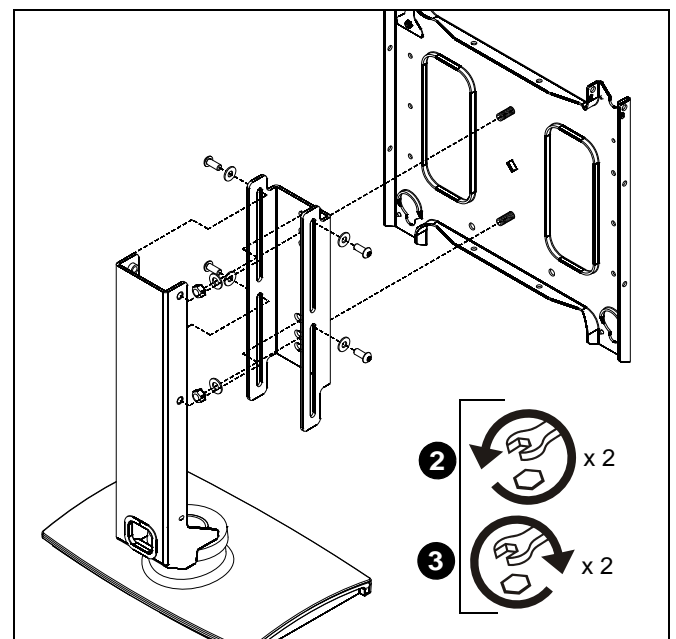

Figure 3
1. Remove slide from base by removing four button head cap screws and four flat washers. (See Figure 3)
2. Remove faceplate from slide by removing two flat washers and two lock nuts. (See Figure 3)